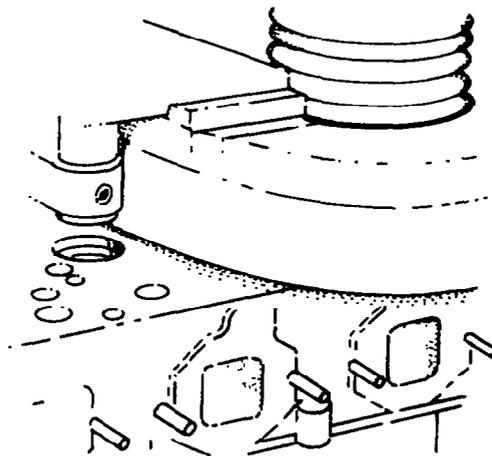

Fig. 8 — Machining Head
- b. Machine the head to obtain a true surface (see fig. 8).